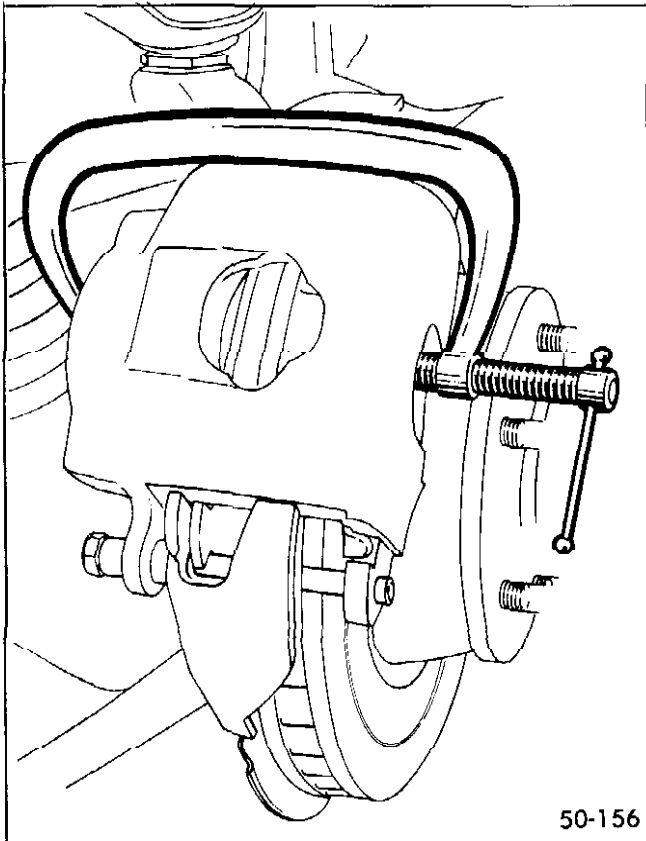

Figure 50-45 Use of C Clamp
2. Raise the car and remove the wheel covers and wheel assemblies. Position a 7 inch "C" clamp on the caliper so that the solid side of the clamp rests against the inside of the caliper and the screw end rests against the metal part of the outboard shoe. See Figure 50-45. Tighten the "C"